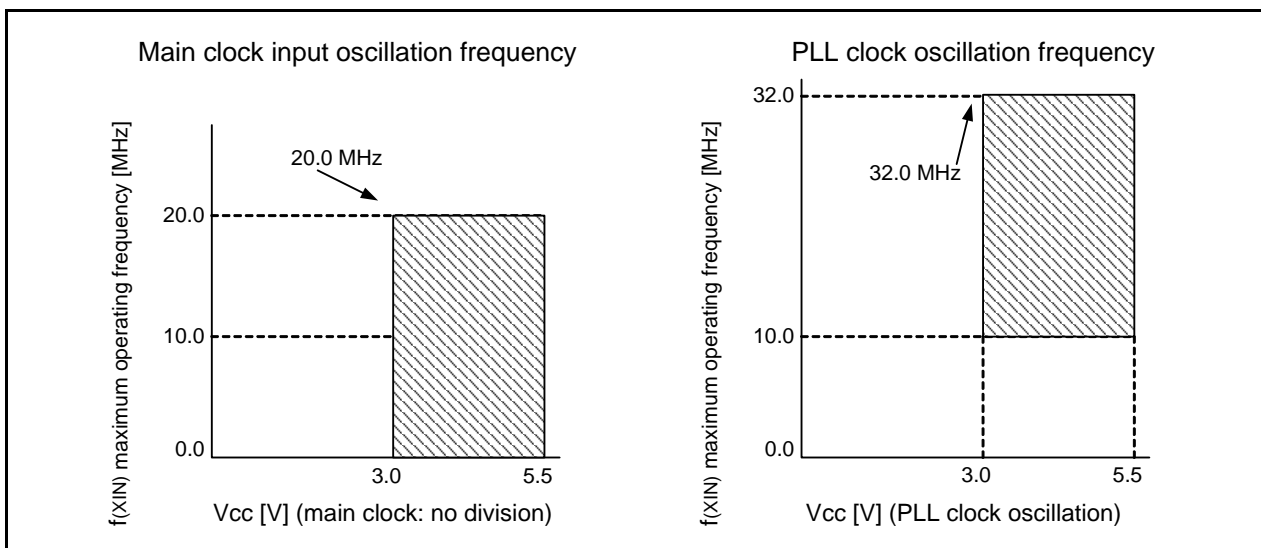

Figure 27.24 Main Clock Input Oscillation Frequency, PLL Clock Oscillation Frequency
- Refer to Figure 27.24 "Main Clock Input Oscillation Frequency, PLL Clock Oscillation Frequency" for the relationship between main clock oscillation frequency/PLL clock oscillation frequency and supply voltage.